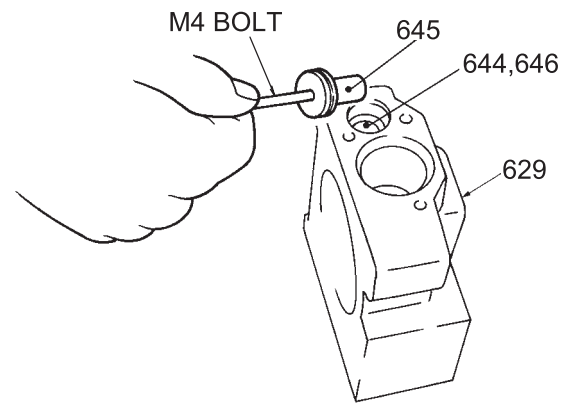

Fig. 33-112 Removing compensating parts
(See Fig. 33-109 (D) section, See Fig. 33-111, Fig. 33-112)